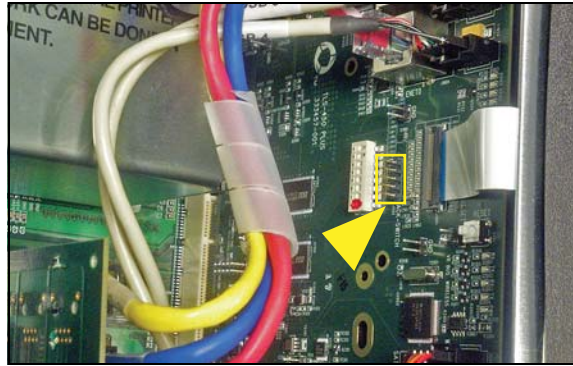

Figure 4. Remove the Acknowledge Switch Panel Cable From Its CPU Board Connector
22. For right doors with an Acknowledge Switch panel, reconnect its cable to connector (J502) on the CPU board (ref. Figure 4).